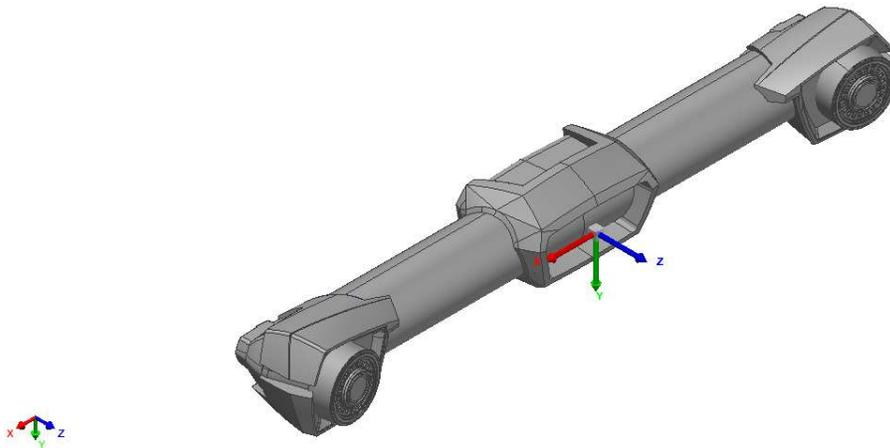
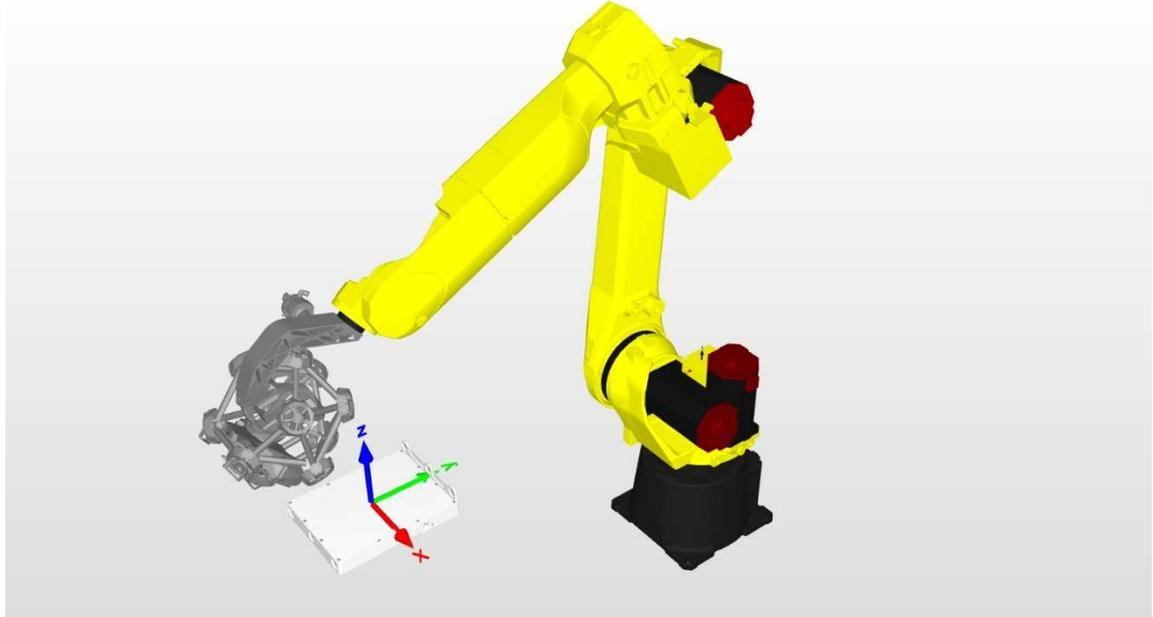

Figure 2 - C-Track Coordinate System
Figure 10 - Calibration pose example
- The plate must be reachable by the robot with the MetraSCAN 3D-R. The TCP must be able to reach the center of the calibration plate (identified by the Z axis of Figure 10). The calibration poses will be above the calibration plate, avoid any obstructions.
The calibration artifact must be positioned in relation to the C-Track Coordinate system (see Figure 2). The center of the calibration plate – identified by the coordinate system in Figure 10) must be within the limits specified below: